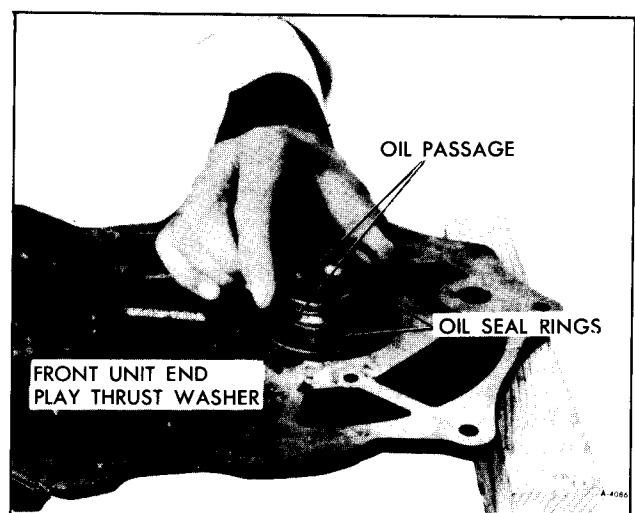

Figure 37—Removing or Installing Oil Seal Rings
3. If necessary, remove oil seal rings from the driven support housing. See Figure 37.
7. If necessary, install oil seal ring into the grooves in the hub of the driven sprocket support housing. See Figure 37.